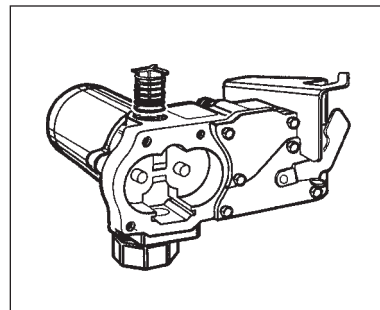

Figure 9
- From inside the housing, use a small screwdriver to push the poppet and spring through the top outlet port. (Figure 9)